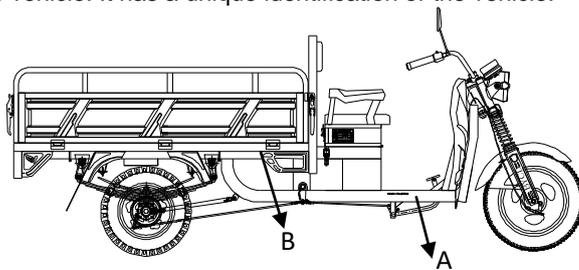

Figure2-19
- a) The VIN code of Sankai freight and leisure models is printed at A or B in Figure 2-19;